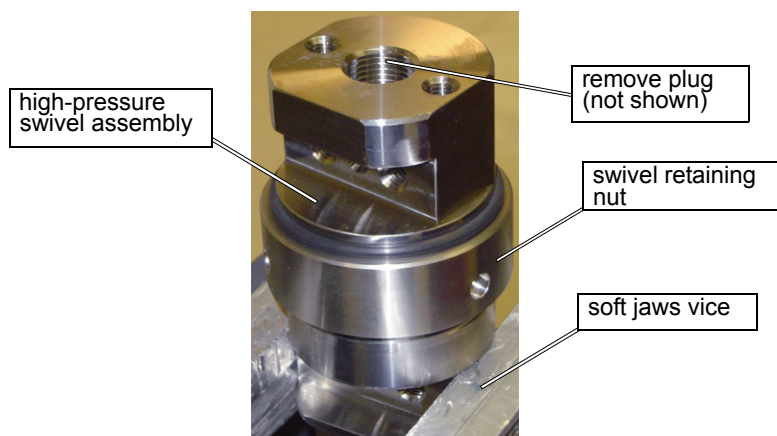

Figure C-4: Clamp the Swivel Assembly in a Soft Jaws Vice
1. Clamp the cleaned **swivel assembly** in a soft jaws vice as illustrated in Figure C-4:
2. If present, remove the top plug on the swivel assembly (Figure C-4).